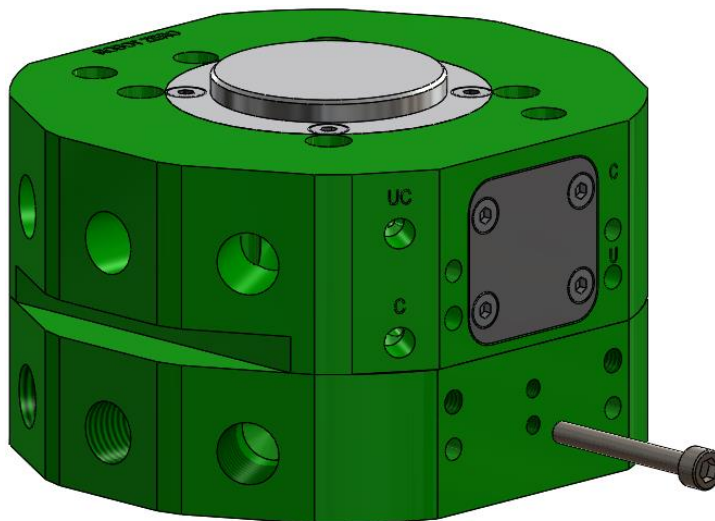

Figure 7.4-1. Manual Uncouple Feature
3. Insert a M3x25mm long socket head cap screw in the hole located in the middle of the Tool Side Housing as shown in Figure 7.4-1. This requires any tool side modules to be removed.